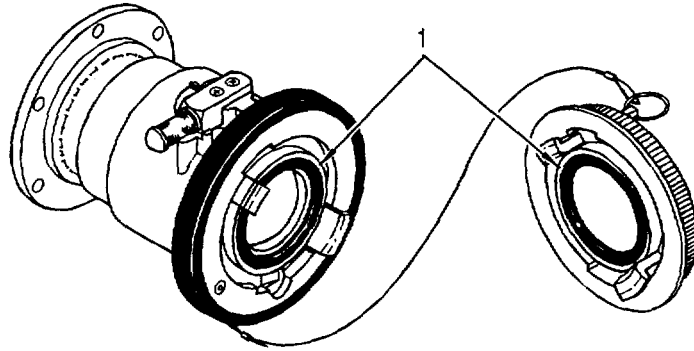

Figure 3-1. Unisex Coupling Face Seal Replacement
3.3.1 Replace Face Seal. (Refer to figure 3-1.)